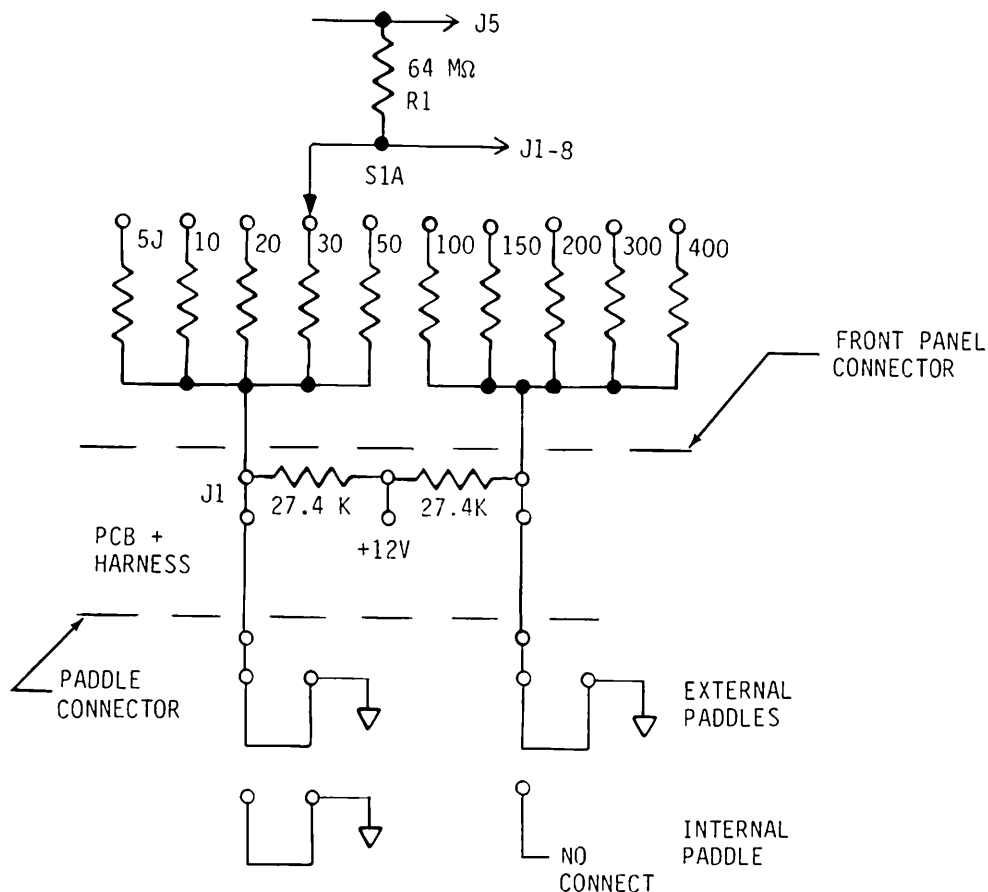

FIGURE 3-8. PADDLE ENERGY INTERLOCKS RANGE
- C. Energy Range Interlocks. When the internal paddles are connected, the energy range interlocks (see Figure 3-8) prevent any charging exceeding 50 joules. The normally grounded terminations of resistor network RN1 on the control panel are divided into two common terminations 5 to 50 joules and 100 joules or higher. These terminations are routed through the Main Defibrillator PCB using J1 (Pins 7 and 6), to the paddle connector. At this point, each is grounded to